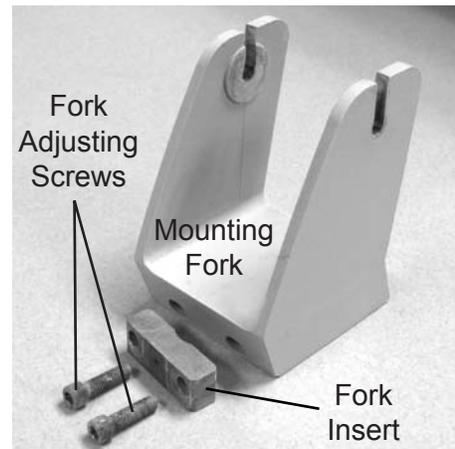

Figure IS-3 Yoke Parts
1. Insert the Fork Insert into the Mounting Fork. Refer to Figures IS-3.